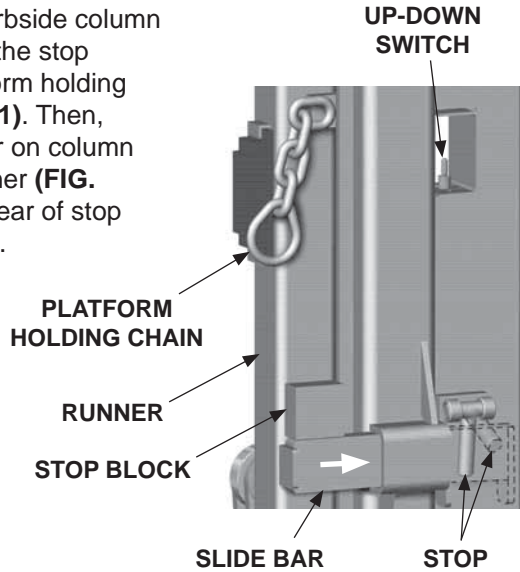
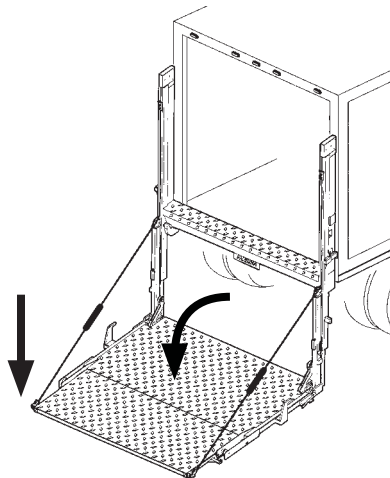

FIG. 14-1
FIG. 14-2
1. Use **UP-DOWN** switch on curbside column to raise (**UP**) the runners off the stop block. Next, disconnect platform holding chain from platform (**FIG. 14-1**). Then, raise stop and move slide bar on column away from stop block on runner (**FIG. 14-1**). This keeps slide bar clear of stop block when lowering platform.
2. Use **UP-DOWN** switch (**FIG. 14-1**) to lower the platform to the ground (**FIG. 14-2**). Platform unfolds as it lowers.
4. Use **FOLD-UNFOLD** switch (**FIG. 15-2**) near bottom of column to unfold platform. Then, use **UP-DOWN** switch (**FIG. 14-1**) to lower the platform to the ground (**FIG. 14-2**).